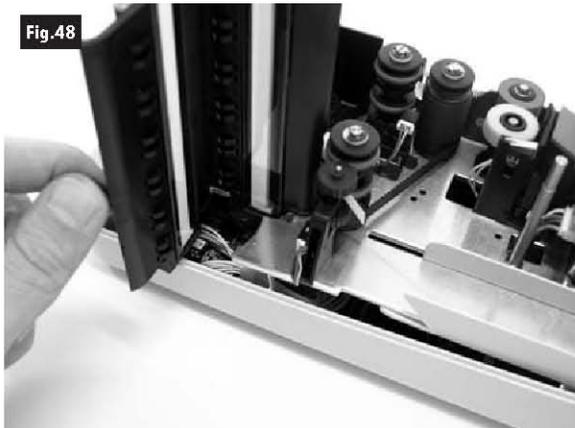

Fig.48
- 1 Gently open the front image camera (Fig.48) and remove any debris and dust.